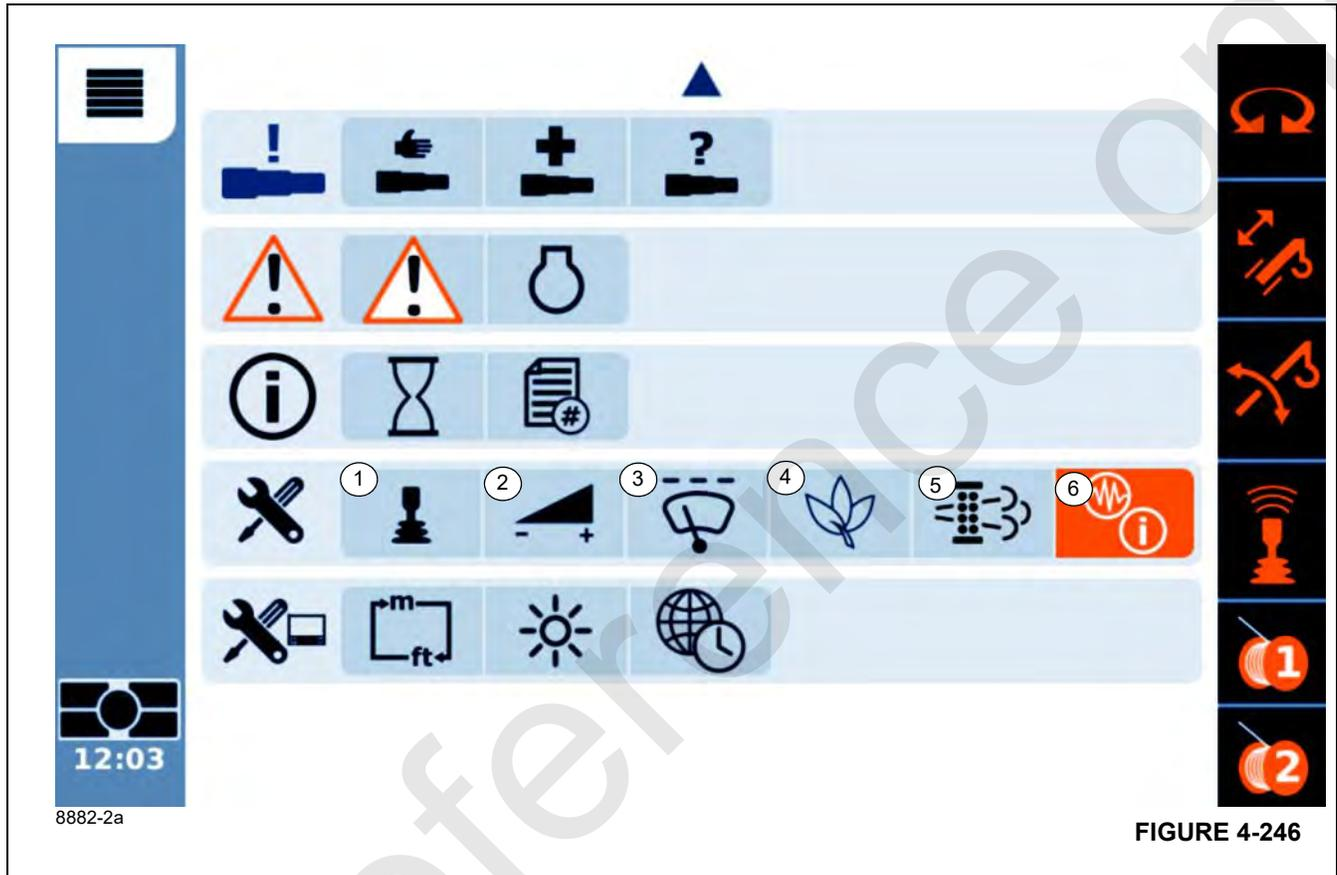

FIGURE 4-246
The User Settings Menu Group (Figure 4-246) includes the following function icons:
The Controller Curve (1), (Figure 4-246), under the User Settings Menu Group, allows the operator to set the amount of stroke the control levers required to initiate a response. The operator can adjust the sensitivity of the controllers to the crane functions.